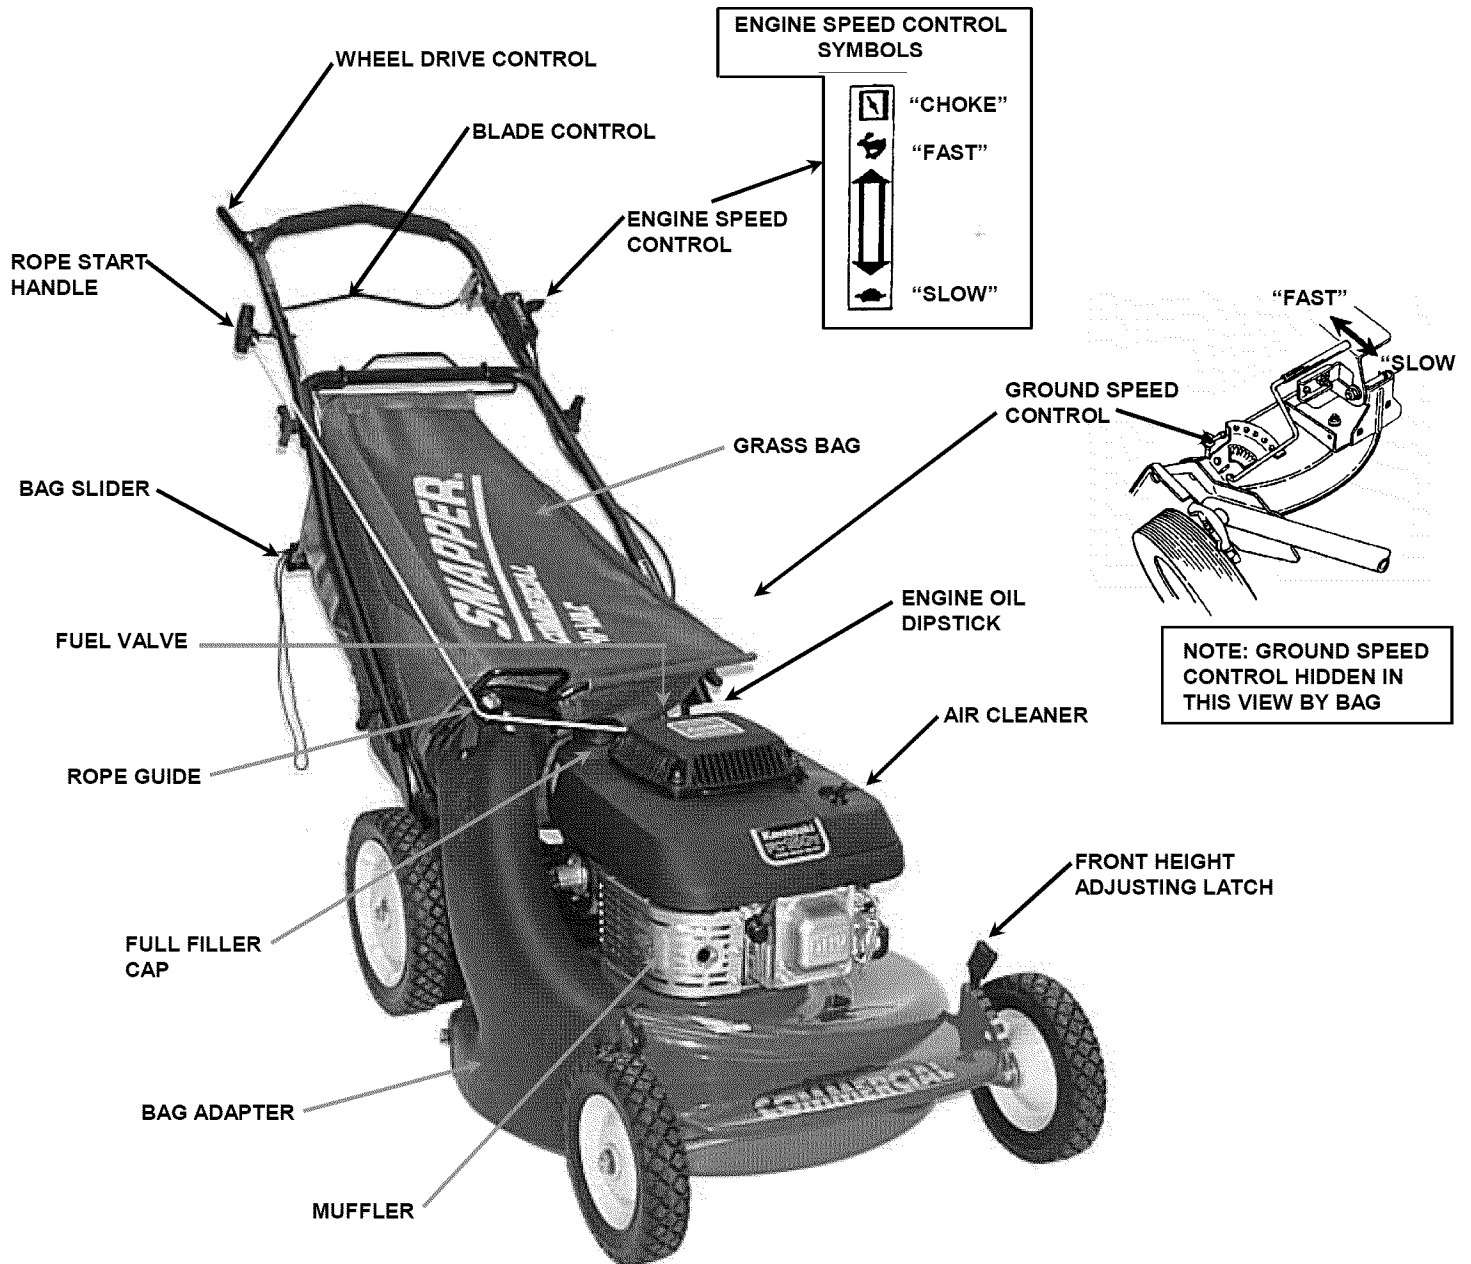
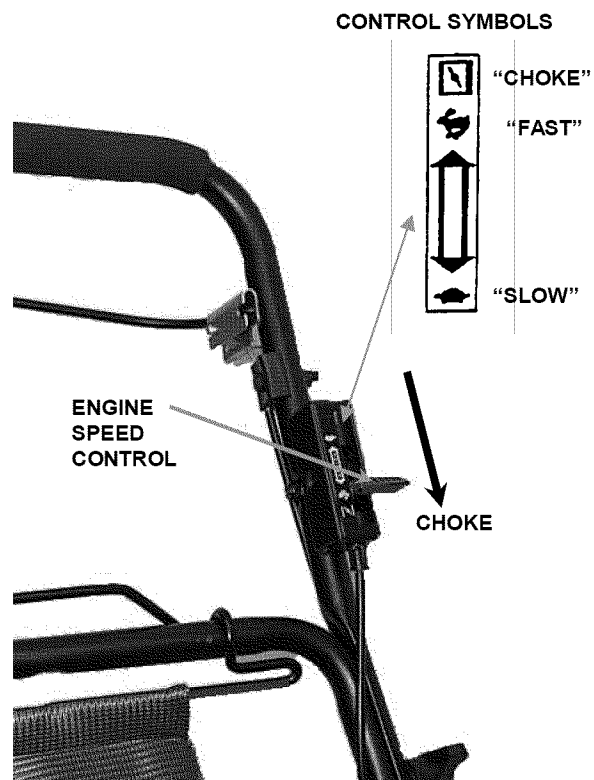

FIGURE 1.1
FIGURE 2.3
The nomenclature figure above, Figure 1.1, shows the essential parts of the SNAPPER WALK BEHIND MOWERS. It is recommended that all operators of the mower become thoroughly familiar with the controls, parts and operation of the mower before operating. Specific details involving the engine are found in the separate engine owner's manual. Study these manuals before operating and keep both handy for future reference.
1. Turn fuel valve to on. See Figure 1.1. Move engine speed control to the "choke" position. The choke should not be required to restart a hot engine. See Figure 2.3.
4. After engine starts, move engine speed control away from the choke position to the "Fast" (Rabbit) position. See Figure 2.3.